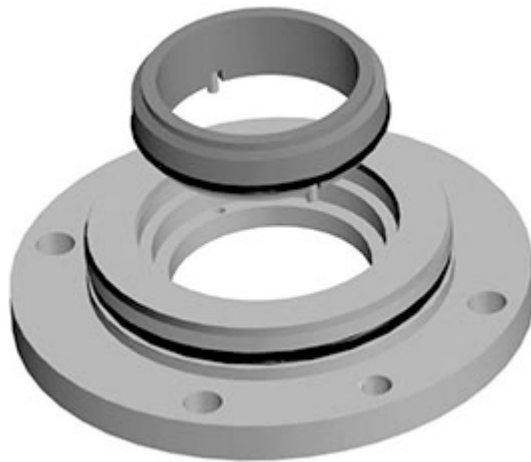

Figure 37: Mechanical seal seat and seal end cover (seal gland) assembly
1. Press the stationary mechanical seal seat with O-ring into the seal end cover until it bottoms out against the bore. Lightly lubricate the bore to ease assembly. (see Figure 37)